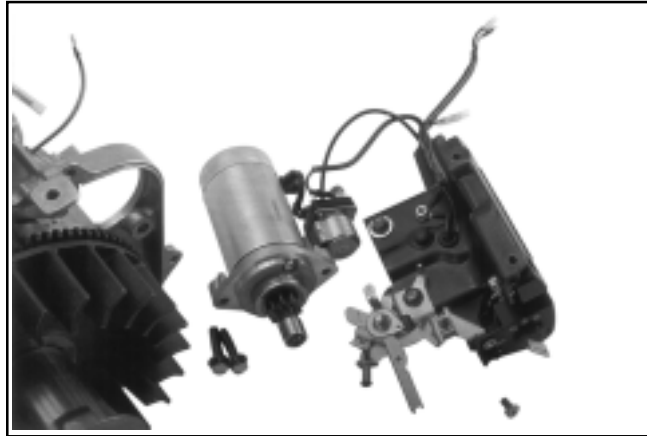

Figure 9-31. CS8.5 (spec. 92xxxx), CS10, CS12 with Electric Starter Assembly Removed.
2. Remove the two front fuel tank bracket (not used on CS8.5 [spec. 95xxxx]) mounting screws, attaching the throttle lever mechanism, switch and oil sentry light bracket. On electric start engines the electrical control panel housing will also be included. Note the washer used on PTO side screw only. See Figure 9-31.
Components may be further disassembled if required. See Figures 9-31, 9-32, and 9-33.